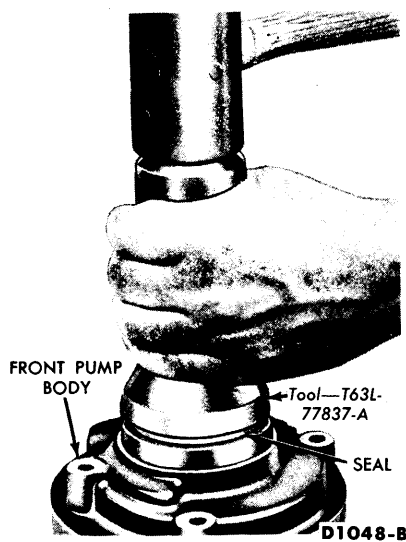
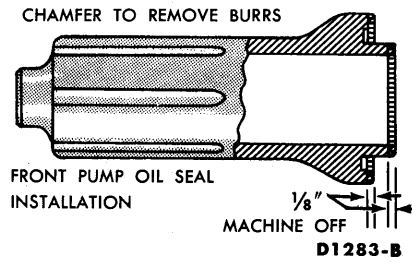

FIG. 39—Installing Front Pump Seal
FIG. 40—Dimensions for Reworking Front Pump Seal Installing Tool
9. Coat the outer diameter of a new seal with FoMoCo Sealing Compound, or its equivalent. Then position the seal in the pump body. Drive the seal into the pump body with the tool shown in Fig. 39 until the seal is firmly seated in the body. Tool 77837 may be reworked (Fig. 40) to install the latest type seal.